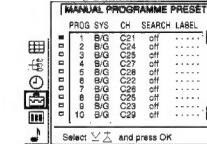

Fig. 22
- Select »Manual Programme Preset« with $\Delta+$ or $\nabla-$ and press OK. The MANUAL PROGRAMME PRESET menu appears. (See Fig. 22.)